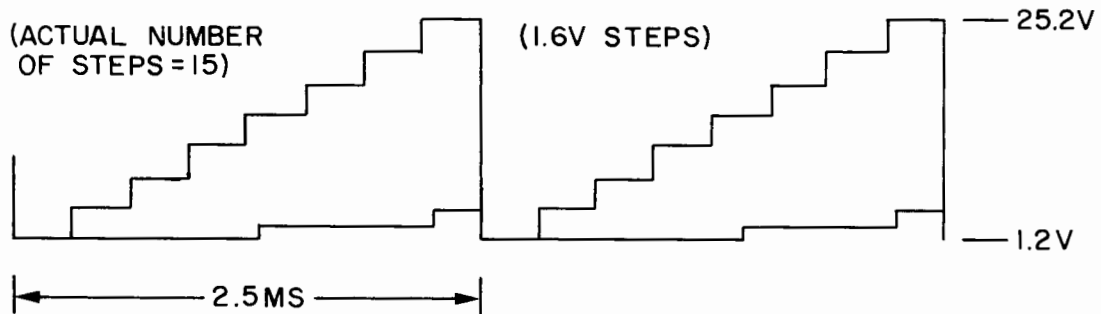

Figure 4-8. VP3 Waveform (1.2v - 26.7v)
- f. Adjust the trigger level for a stable trace. The top part of the waveform should look like figure 4-8. NOTE: The waveform MUST contain 15 steps and be linear.